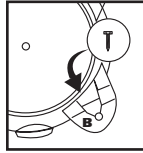

FIGURE 9
7. Secure caster foot to tank with screw provided. **FIGURE 9.**